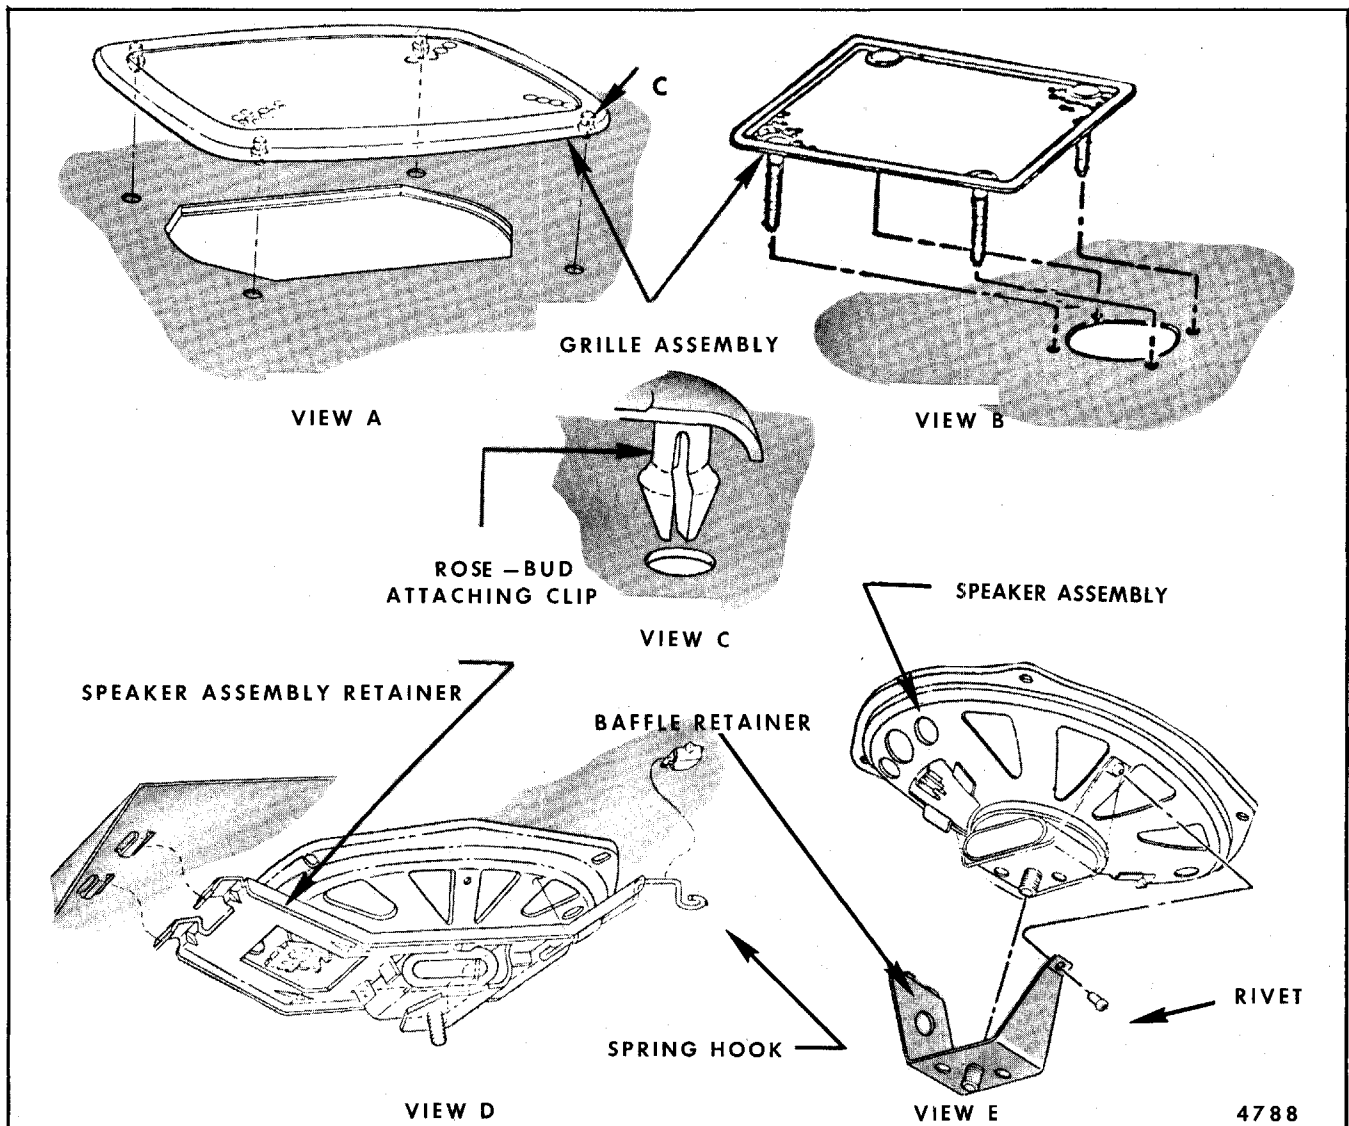
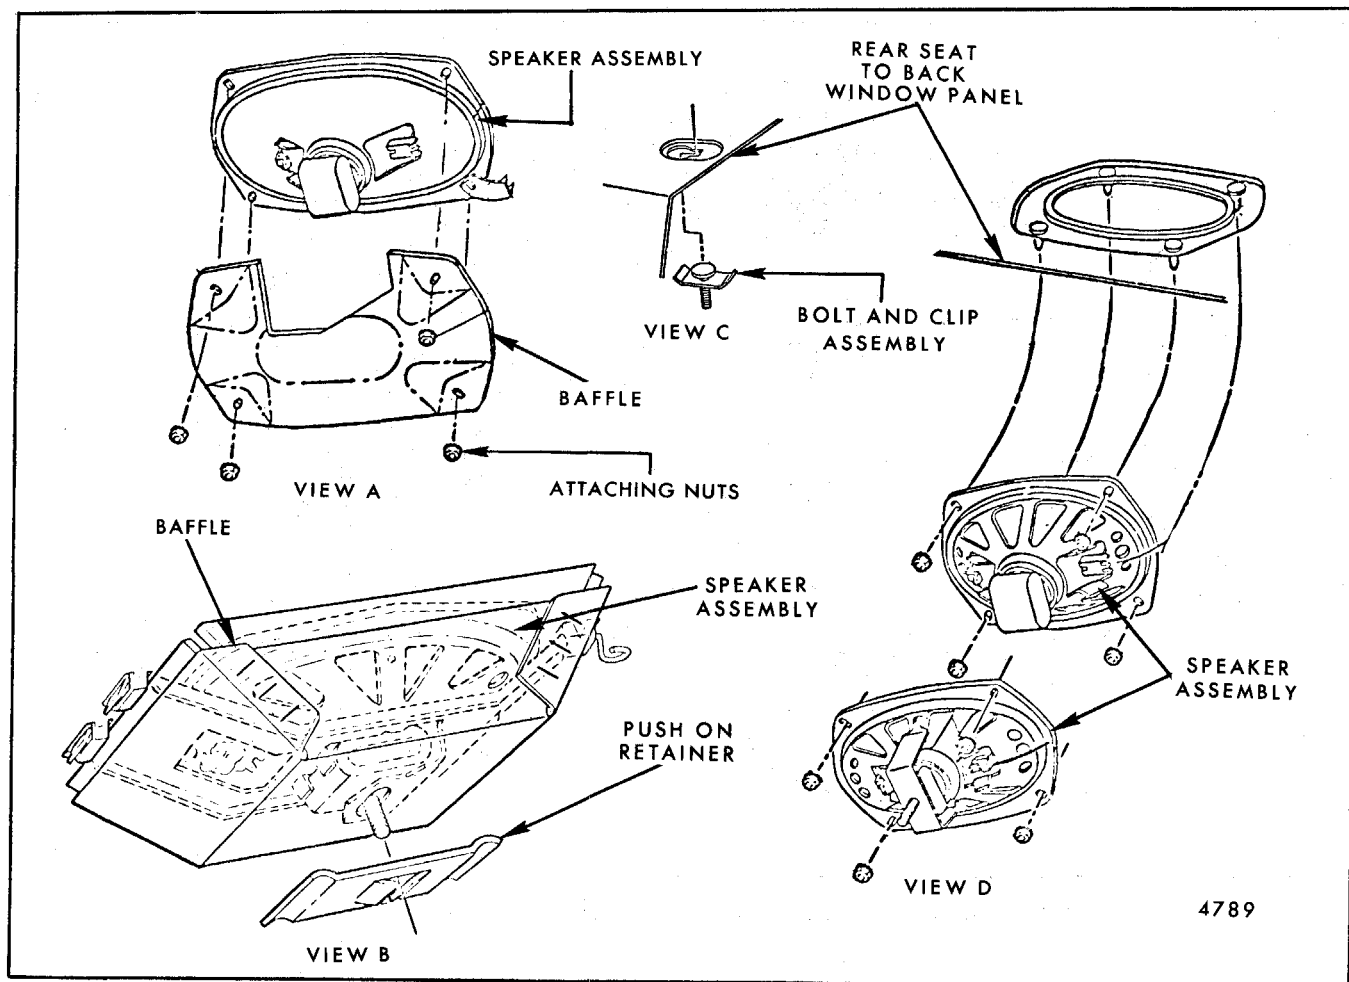
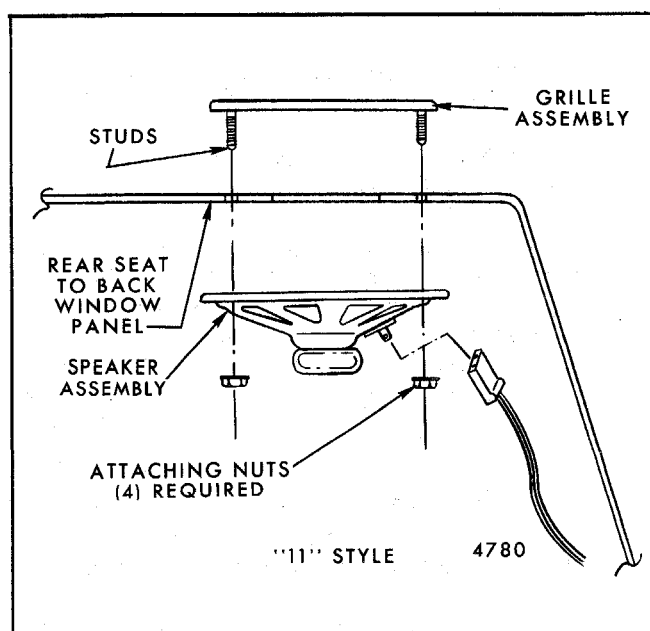

Fig. 9-75-Grille and Speaker Attachment
Fig. 9-76-Baffle and Speaker Attachment
Fig. 9-77-Rear Speaker - "11" Styles
If a nonperforated painted panel is used, the speaker is attached to a speaker grille assembly or retained by a one piece metal retainer (see Fig. 9-75, Views "B" and "D", and Fig. 9-77).
If a perforated vinyl coated panel is used, the speaker is retained with either a metal retainer Figure 9-75, View "D", or a bolt and clip assembly Figure 9-76, View "C".
1. If speaker baffle (cover) is installed to speaker assembly, detach baffle by removing push-on retainer or attaching nuts (see Fig. 9-76, View "A" and "B").
NOTE: If replacing speaker remove baffle retainer as shown in Figure 9-75, View "D" and "E".
3. If not previously removed with baffle, remove four attaching nuts to separate speaker assembly from grille and lift grille assembly upward to complete removal (see Fig. 9-76).
4. On styles using metal retainer assembly to secure speaker to rear seat to back window panel, Figure 9-75, View "D", disengage spring hook from tab at rear of panel and swing speaker assembly downward to remove.